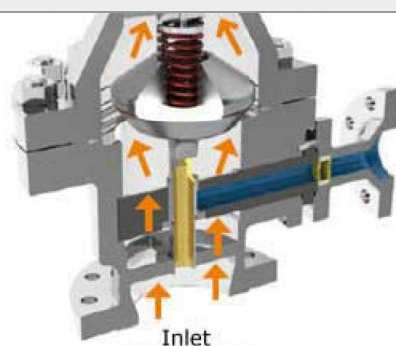

Fig2
2. As the disc lifts (FIGURE 2) in response to an increase in flow to the process, the bypass element which is integral to the disc, closes the bypass flow orifices reducing recirculation flow. Recirculation flow is controlled with disc position. This modulation feature assures that the total of process flow and recirculation flow exceed the minimum flow through the pump as specified by the pump manufacturer.